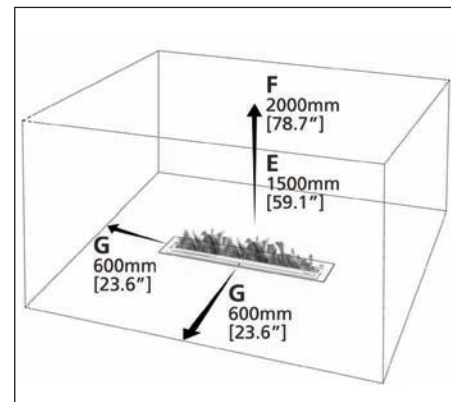

Fig. 4
B. POSICION DEL QUEMADO "SIN INTEGRAR EN UNA CHIMENEA O PARRILLA" (Fig.4)